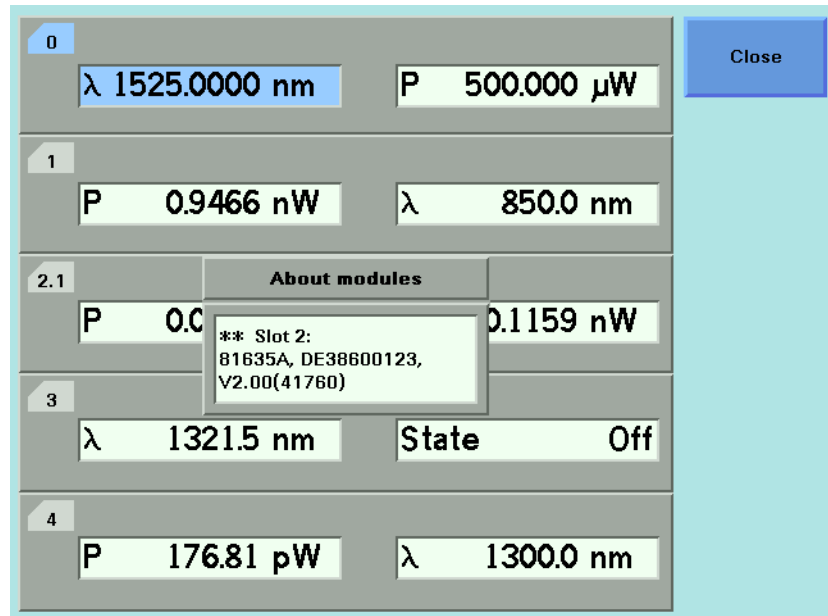

Figure 53 Viewing Information About a Module
- 4 The part number, serial number, and firmware revision of the chosen module are displayed, as shown in Figure 53 on page 93.